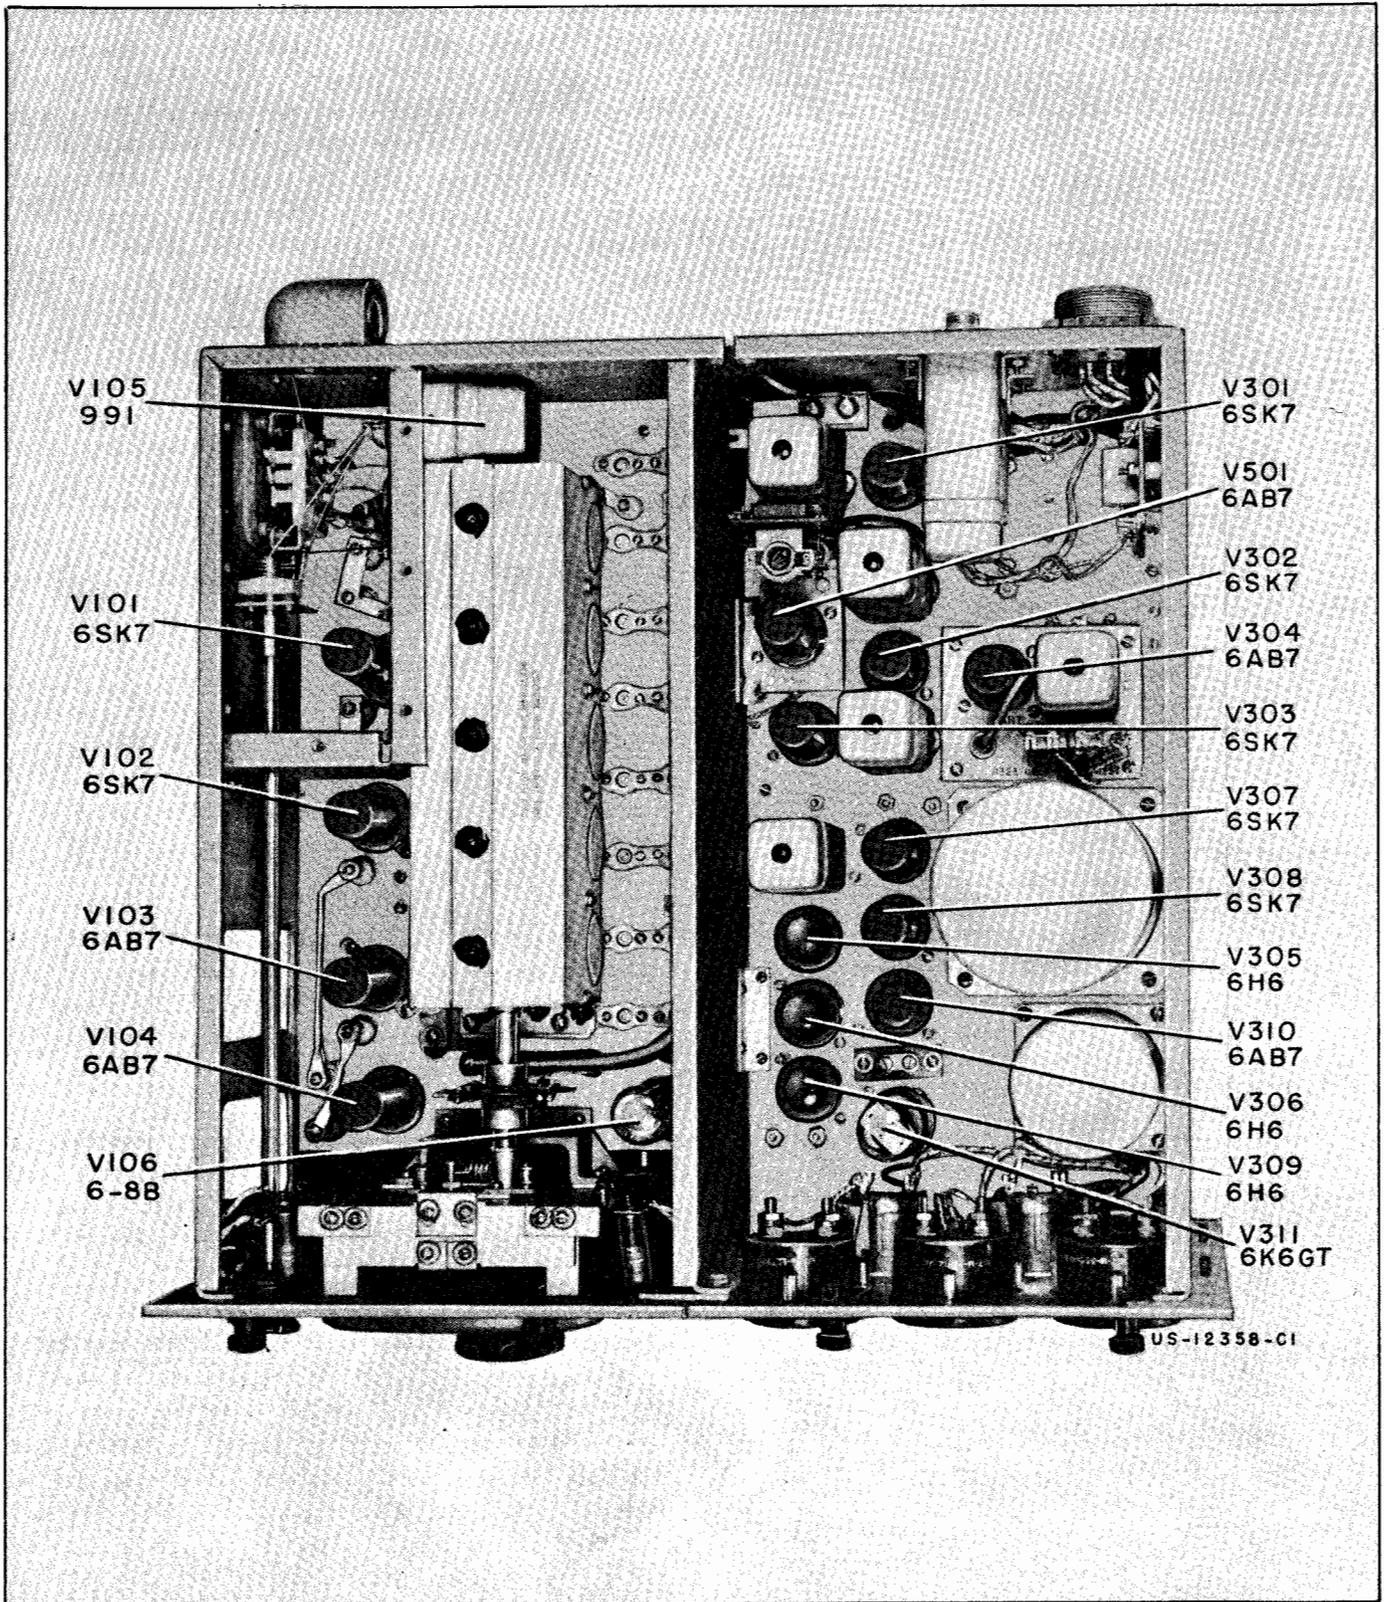
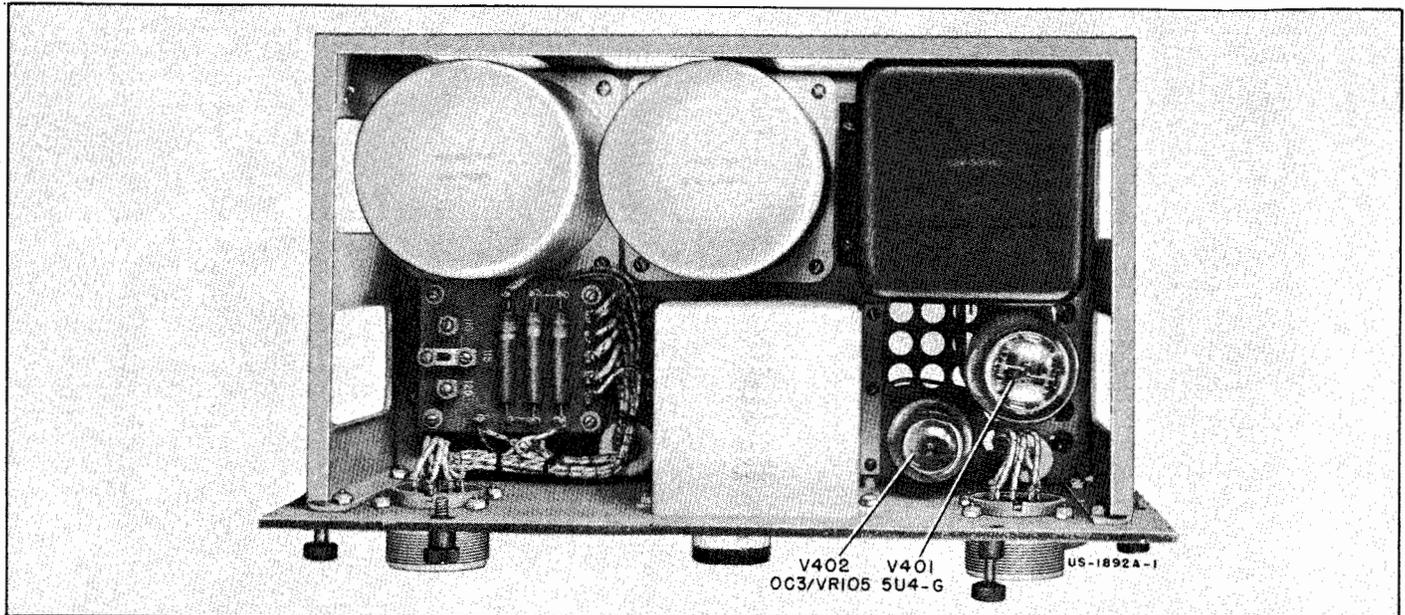

Figure 5-1. Tube Locations, RBB
Figure 5-3. Tube Locations, Power Unit
(2) TUBE LOCATIONS.—Locations of the tubes in the RBB and RBC receivers are indicated and identified on Figures 5-1 and 5-2, respectively. Tubes in the Rectifier Power Unit are identified on Figure 5-3.
(3) REPLACING ELECTRON TUBES.—Only two tubes require special removal instructions due to inaccessibility. Tube V101 (or V201) can be removed by taking off the shield on the first r-f compartment. The gas-filled type 991 tube, V105 (or V205), is located inside the shield indicated. To remove this tube, pull off the shield cover. The 991 tube can then be removed by the usual method employed for bayonet-type bases.